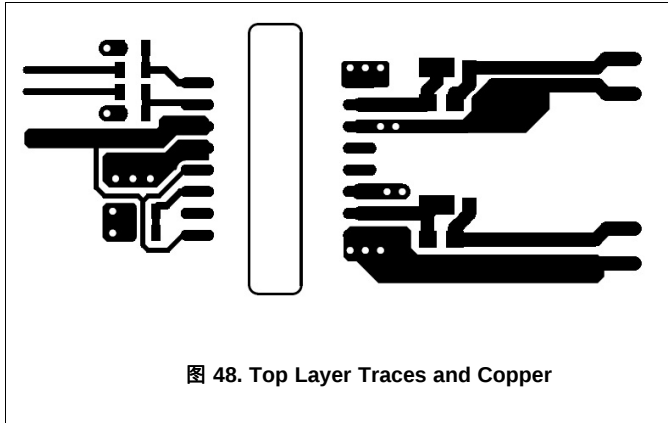

图 48. Top Layer Traces and Copper
- Increasing the PCB copper connecting to VDDA, VDDB, VSSA and VSSB pins is recommended (See 图 48 and 图 49). However, high voltage PCB considerations mentioned above must be maintained.
图 48 and 图 49 shows top and bottom layer traces and copper.